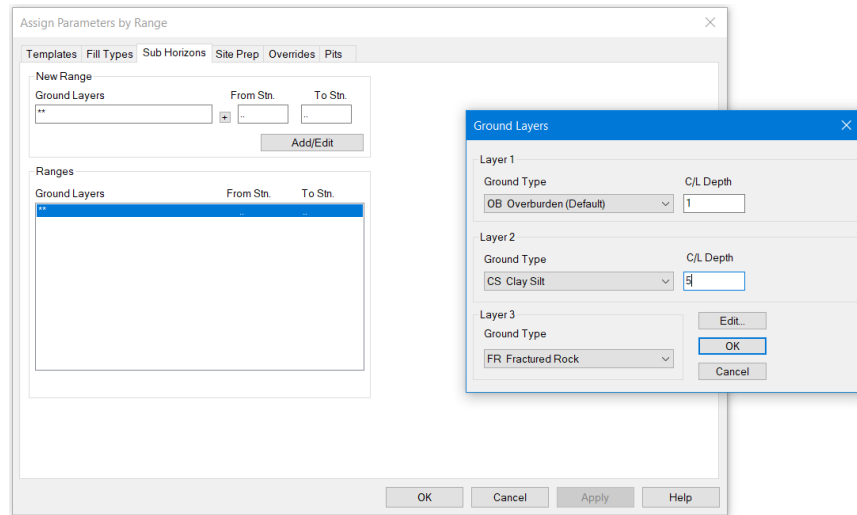

Figure 18-2: Defining Materials in The Original Ground.
- Select the *Sub Horizons* tab (Figure 18-2 below left).
- Press the **+** button beside the *Ground Layers* field to open the *Ground Layers* dialogue box (Figure 18-2 above right).